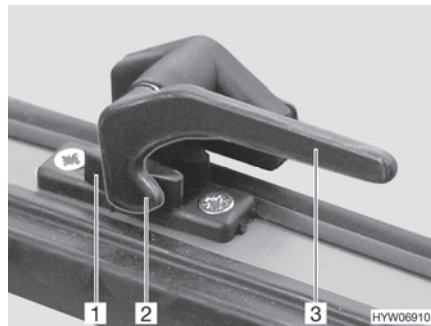

Fig. 45 Catch lever in "closed" position
- Turn the catch lever (Fig. 45,3) a quarter turn towards the centre of the window.
- Turn the catch lever (Fig. 45,3) a quarter turn towards the window frame. The locking catch (Fig. 45,2) is located on the inside of the window catch (Fig. 45,1).
- "Firmly closed" (Fig. 45)